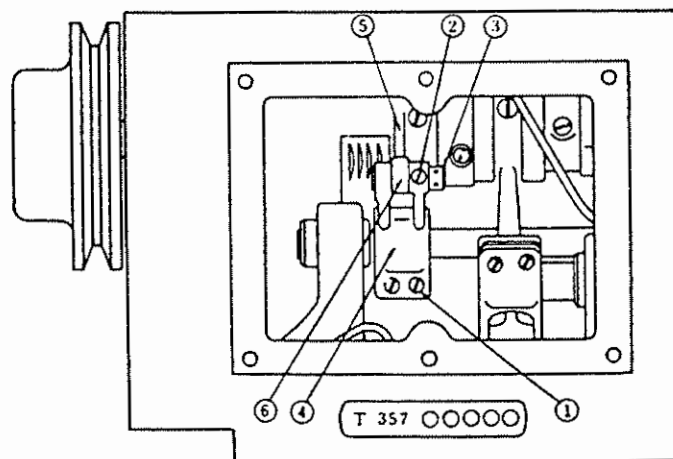

Fig. 30
#### 6. Adjusting the looper avoid motion of the safety stitch looper (Fig. 30)
First, open the back cover of the machine. Next, rotate the pulley with your hand and set the safety stitch looper in the position as shown by Fig. 30. Loosen the set screws ① and ②. Rotate the looper avoiding link pin ③. As this looper avoiding link pin is an eccentric type pin, the clearance of the center of the pin ④ either stretches or shrinks. Also, when the looper avoiding link pin is rotated, the small edge part ⑤ of the looper avoiding connecting rod goes up and down.
A) When the looper avoiding range must be increased, rotate the looper avoiding link pin ③ to lower the small edge part ⑤.
B) When the looper avoiding range must be decreased, rotate the looper avoiding link pin to raise the small edge part ⑤.